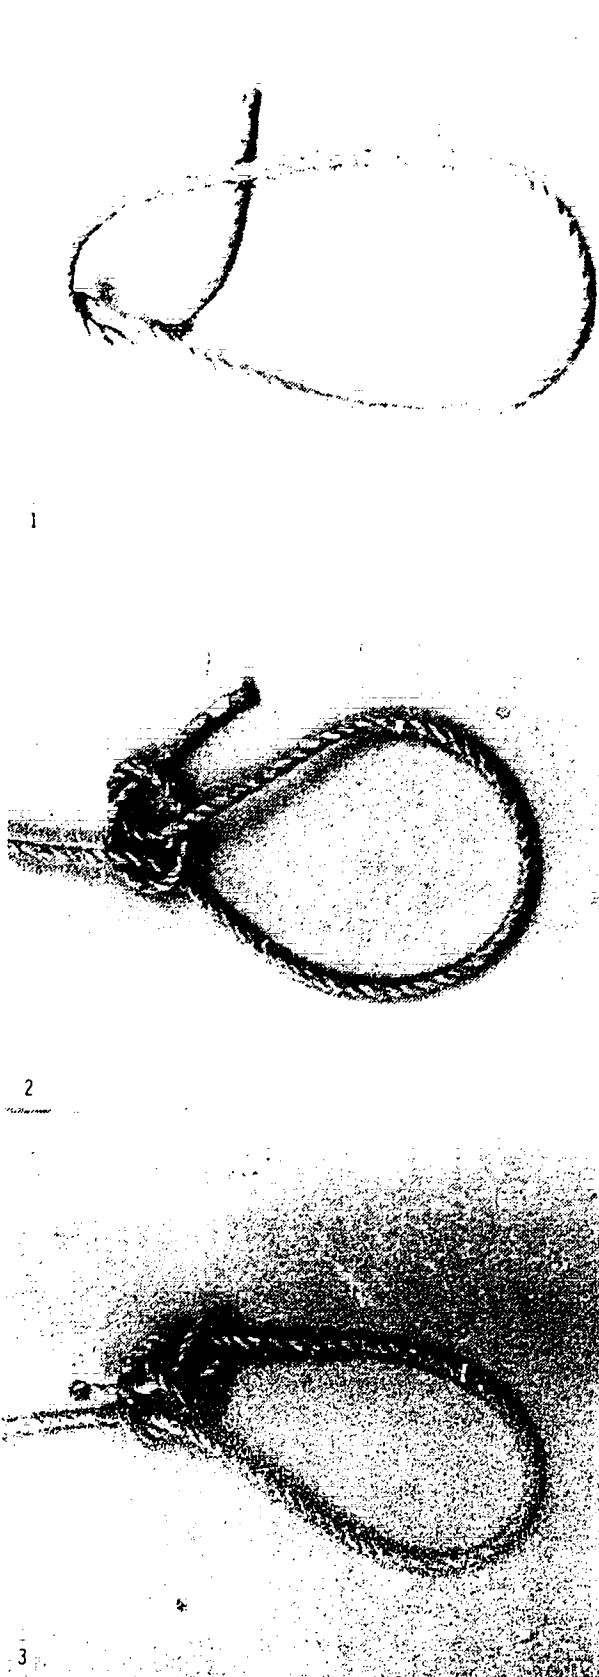

Figure 7-12. Tying a Running Bowline Knot
- a single line. Figure 7-12 illustrates the steps in tying a running bowline knot.